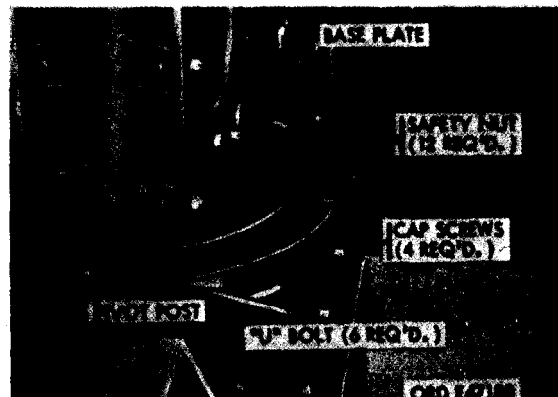
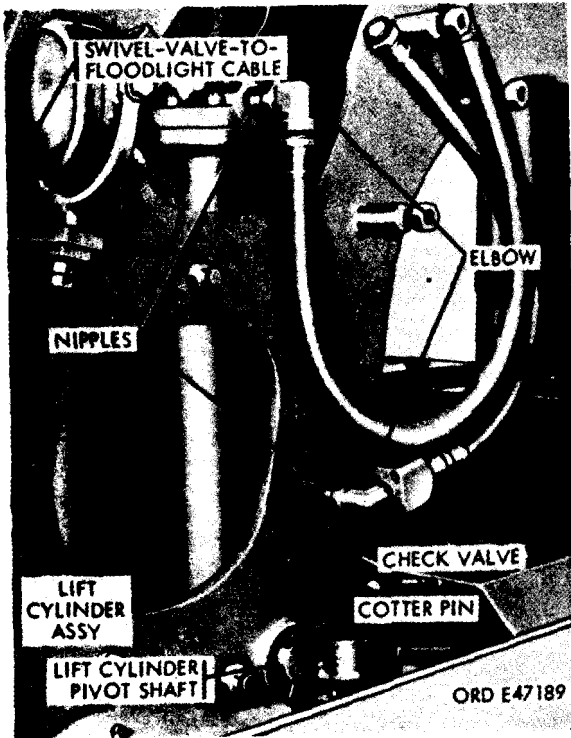
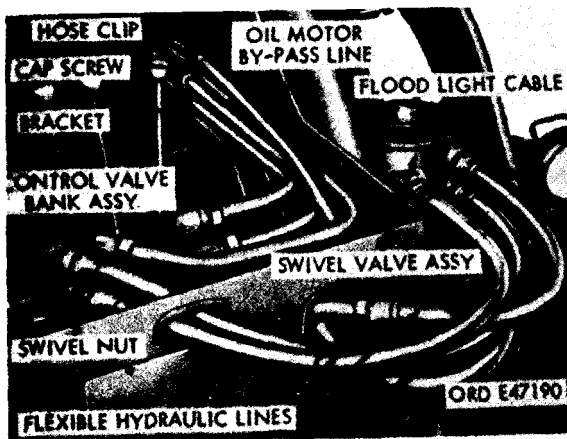
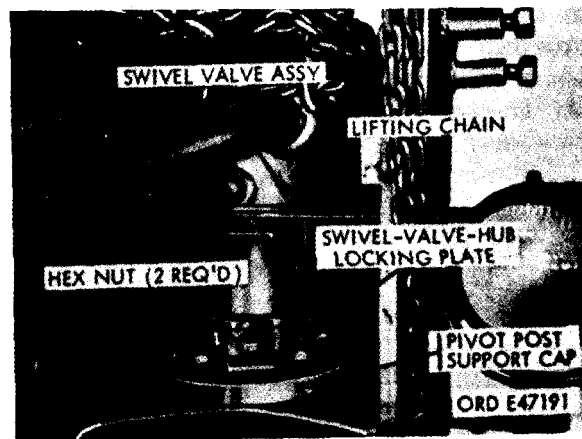

Figure 399. Lower end of pivot post and base plate
Figure 400. Left side of pivot post shipper support, and boom lift cylinder.
Figure 401. Front view of operator's compartment and control valve bank assembly.
Figure 402. Front view of upper end of pivot post with swivel in raised position.
referred to in this paragraph, consists of the crane base plate (fig. 399), pivot post (fig. 399), shipper support (fig. 400), swivel valve assembly (fig. 401), and operator's compartment and control valve bank assembly (fig. 401). The combined weight of these units is approximately 3500 pounds. The base plate is bolted to the crane body, which is bolted to the left and right frame side rails. The pivot post, which is hollow, is internally sup-
ported at the top and bottom by tapered roller bearings, which are installed on a tubular support member attached to the base plate. The pivot post support cap (fig. 402) bolted to the top of the pivot post support, anchors the pivot post to the support while permitting the pivot post to rotate freely on its vertical axis. The shipper support, on which the boom and ship-
e. *Swivel Valve Assembly* (figs. 401 and 402). The swivel valve assembly (fig. 401) is installed on top of the pivot post support cap (fig. 402) with its lower end extending into the pivot post support. A locking plate secures the valve assembly to the support cap. The swivel valve assembly permits 360° rotation of the crane without twisting or breaking the hydraulic lines from the pump to the driving motor, hoist hydraulic oil motor ((i) below), boom lift cylinder ((g) below), boom crown cylinder ((h) below), and control valve bank assembly ((j) below).
g. *Boom Lift Cylinder*. The boom lift cylinder (fig. 400) is vertically mounted to the rear of the pivot post. The lower end of the cylinder is pivoted on a shaft installed between the sides of the shipper support. The upper end of the lift-cylinder piston rod is pivoted on a shaft installed between the sides of the shipper. Weight of the boom lift cylinder is approximately 265 pounds. By using overhead hoisting equipment to raise the front end of the boom to its position of maximum elevation, the boom lift cylinder can be removed without removal of the boom and shipper assembly. However, the boom lift cylinder removal procedures (para 316) in this section require removal of the shipper and boom assembly.